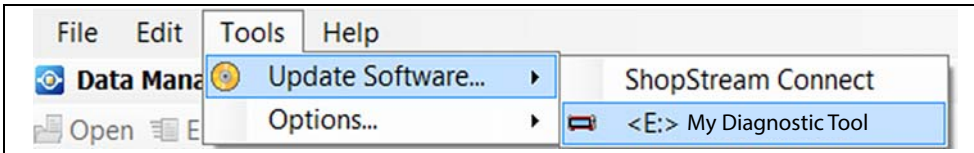

Figure 13-12
1. Select **Tools > Update Software >** (diagnostic tool type - e.g. **ETHOS Edge**, **MODIS Edge**, **SOLUS Edge**, etc.) from the Menu bar (*Figure 13-12*).